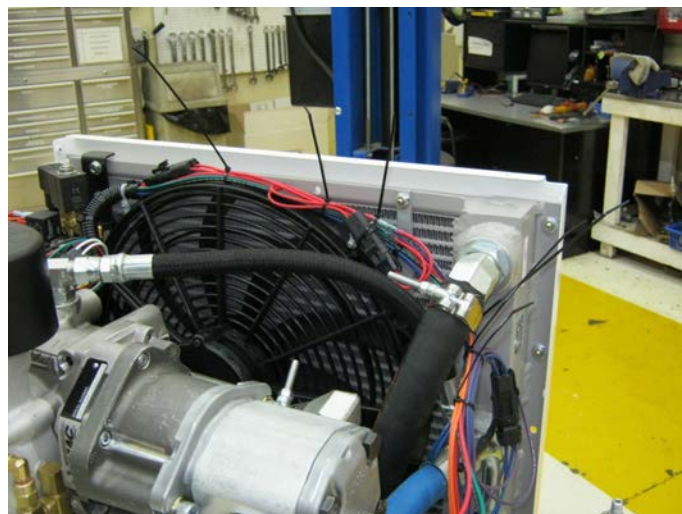

Figure 8 - Wires Bundled
- Route the wires away from all sources of heat, pinch points and areas where abrasion or damage may occur. Secure the wires using suitable tie wraps or similar wiring restraints (Figure 7 and Figure 8). Use protective loom if required.